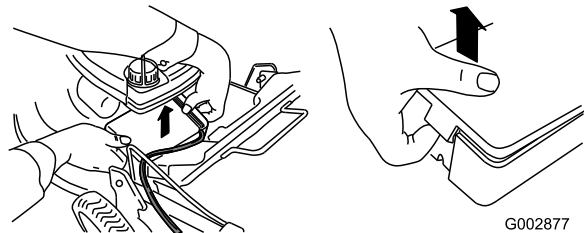

Figure 7
- 1. Unclip both ends of the battery cover and remove it (Figure 7).